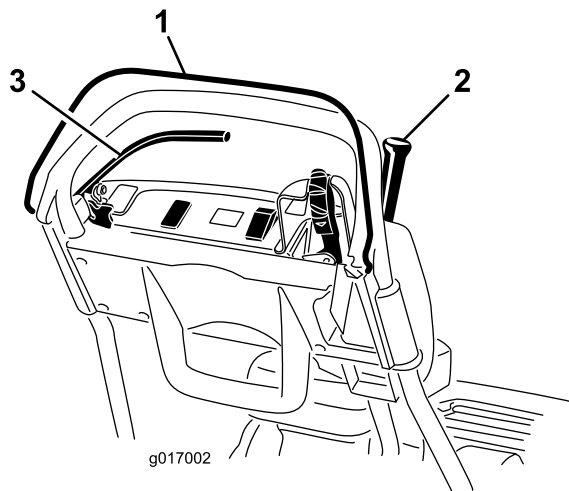

Figure 31
2. With the OPC released, attempt to engage the traction lever (Figure 31). The traction lever should not engage. If the traction lever engages, the interlock system needs service. Correct the problem before operating.
3. With the OPC pressed and the traction lever engaged, release the OPC (Figure 31). The traction lever should disengage. If the traction lever does not disengage, the interlock system needs service. Correct the problem before operating.
4. With the OPC pressed and the shift lever moved to the left, engage the traction and reel drive, release the OPC (Figure 31). The traction lever should disengage. If the traction lever does not disengage, the interlock system